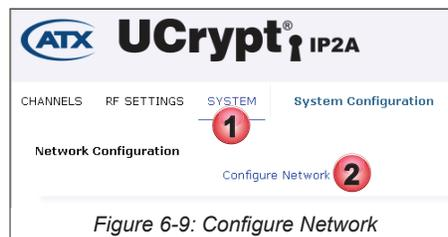

Figure 6-9: Configure Network
1. Click the **System** tab if it isn't already selected, Figure 6-9.